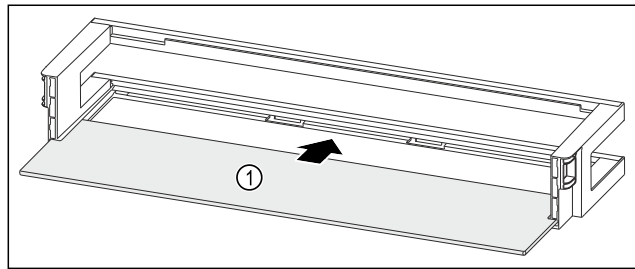

Fig. 121 Door rack with shelf
- ▶ Push the shelf Fig. 121 (1) into the side recesses.